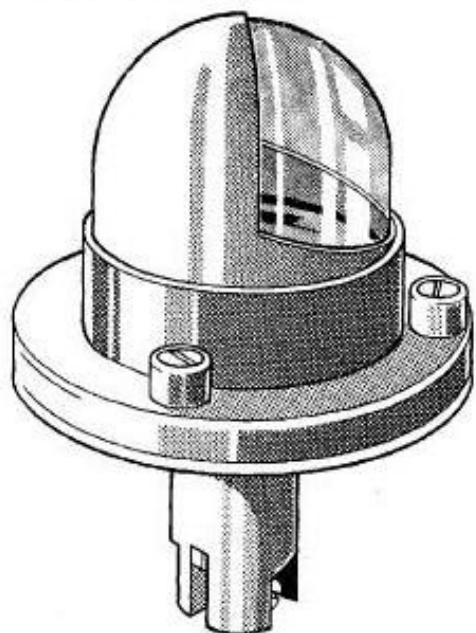

Fig. 1. Wing tip navigation lamp
3. The lamp, which is shown in fig. 1, has a baseplate, a single contact lamp holder, and a reflector housing, secured together by four 6B.A. screws and locknuts. An 'O' ring located between the reflector housing and the baseplate seals the rear of the assembly. The dished reflector fits into the well of the reflector housing, located by a locating spigot which mates into a locating hole in the housing, and is sealed by a gasket between the lip of the housing and the flange of the reflector. A further gasket within the flange of the reflector seals the joint between the reflector and the front glass. The front glass is held in position by the aluminium cover which is secured to the baseplate by three self-locking fasteners.